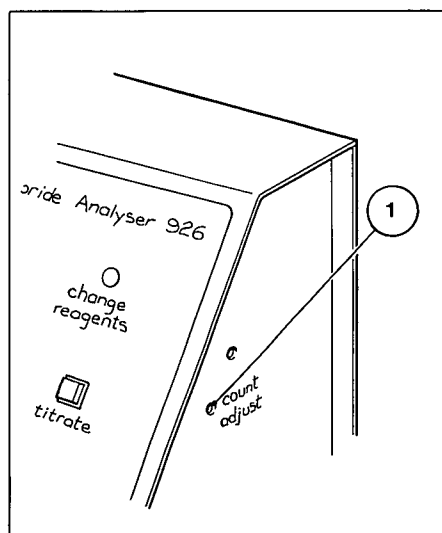

Figure 4.3 Calibrate Control
15. Using a screwdriver adjust the 'count adjust' control through the hole in the side panel, item 1, Figure 4.3. If the reading is low adjust the control clockwise, if high adjust control counterclockwise. The sensitivity is approximately a change of 16 mgCl/l for one complete rotation.